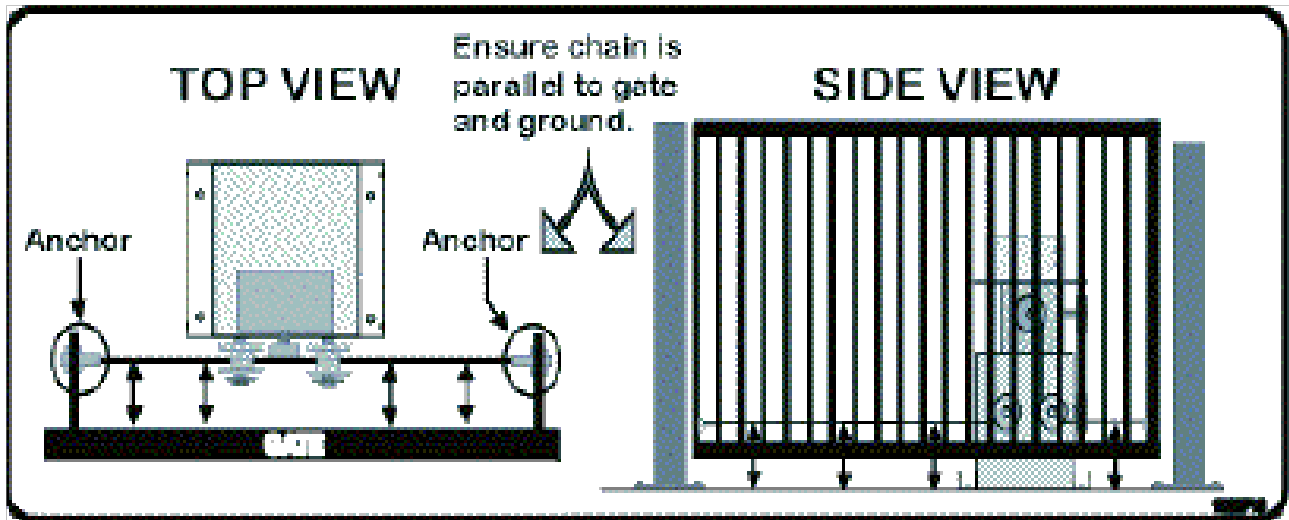

Figure 10-B. Parallel Chain Location
1. Weld the Gate Anchors to the edges of the gate as shown in Figure 10-B.